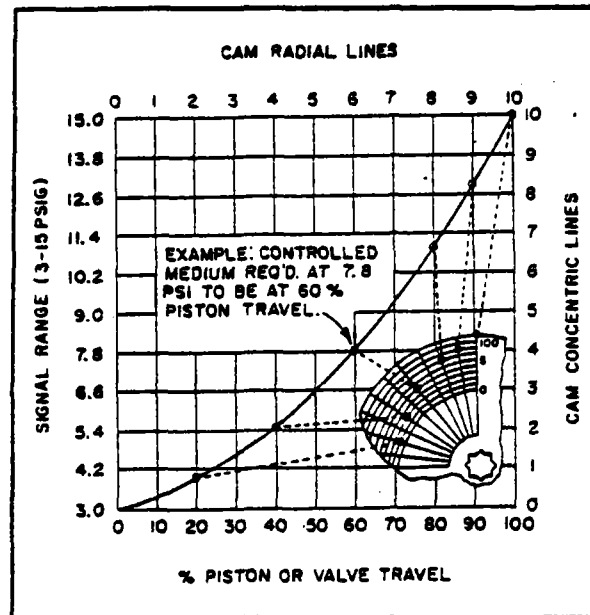

FIGURE 18 - Locating Points for Shaping Positioner Cam for 3-15 psi Unit
1. Use cam selected in step 4 under "Characterized Cams". For each increment of control signal pressure (concentric lines), locate the piston (or valve) position (radial lines) required for specific control signal pressure. Refer to Figure 18 for method of locating these points.